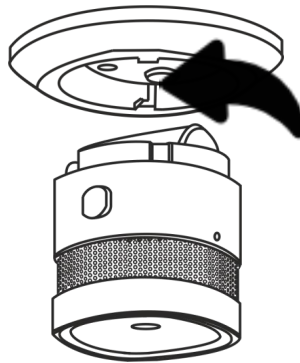

Figure 6 – Disassembling the mounting bracket from the Smoke Sensor
3. Disassemble the mounting bracket by turning it counterclockwise as shown in Figure 6.